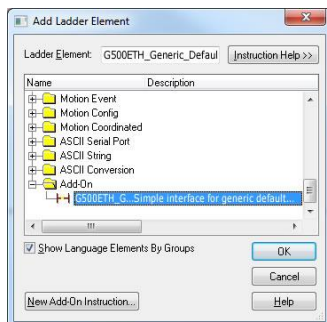

Figure 37: Add Generic Default Add-On Instruction
- 8) Select the generic default I/O add-on instruction in the Add-On folder. Refer to Figure 37.